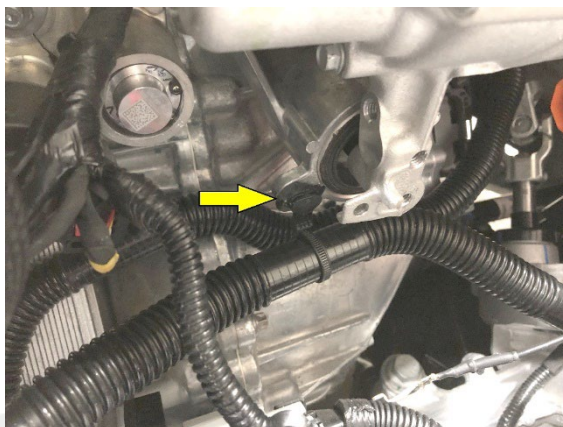

Figure 10
12. Release the clip that attaches the coolant hose to the A/C compressor bracket (Figure 10).